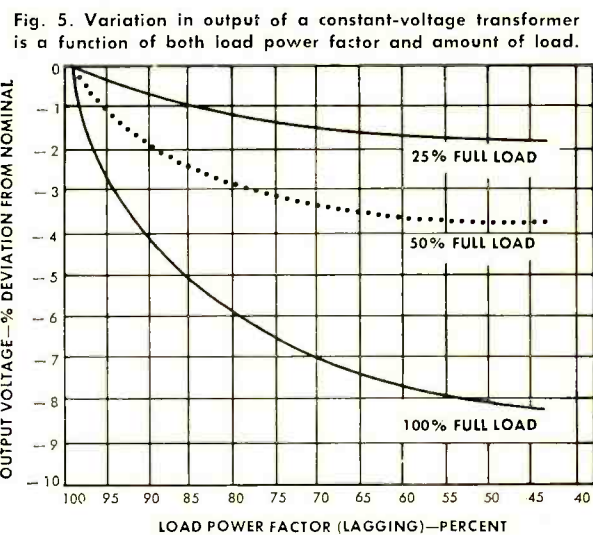

Fig. 5. Variation in output of a constant-voltage transformer is a function of both load power factor and amount of load.
Fig. 5. (A) When a core is made to change state, a pulse is picked up by the sense wire. (B) This sense wire is threaded through each core in the plane. (C) The inhibit wire passes through every core in the plane and is used to reset cores to their original state so that the memory is not altered.
Load changes will also affect the output, because they result in rather large changes in secondary flux. Fig. 5 shows this relationship. However, there are other means to protect circuitry against such load-derived voltage variations. For example; zener diodes or VR tubes are often used because they handle such changes very readily.